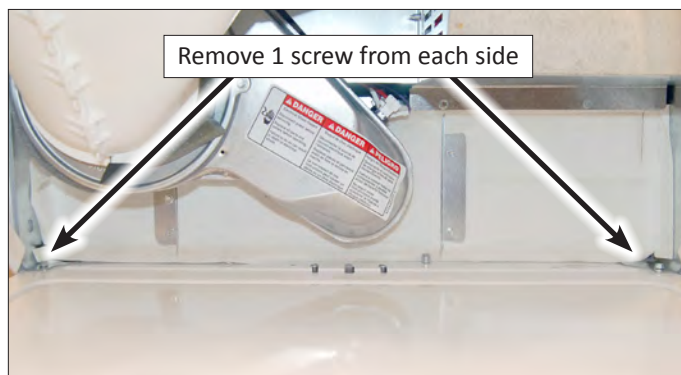

Figure 6
3. Next, install the remaining four (4) 5/16” screws per side attaching dryer to washer. See Figures 6 & 7, page 5-15.